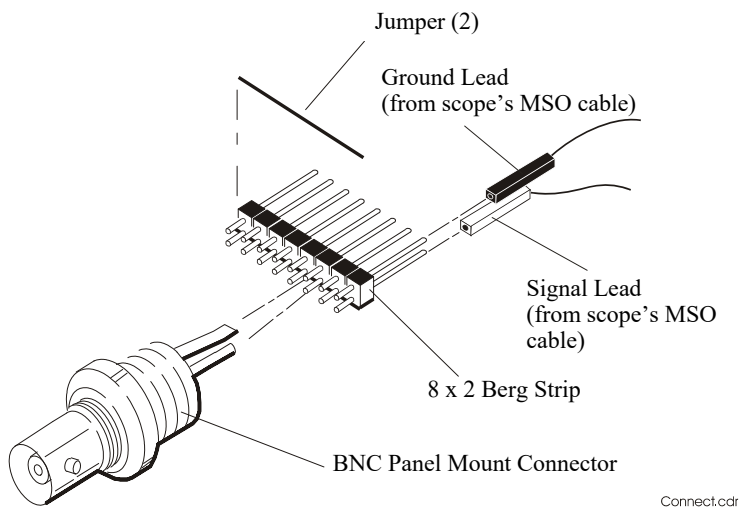

Figure 1 Constructing the 8-by-2 Connector
- 2 On one side of the Berg strip, solder a jumper wire to all of the pins (shown in Figure 1 on page 22).